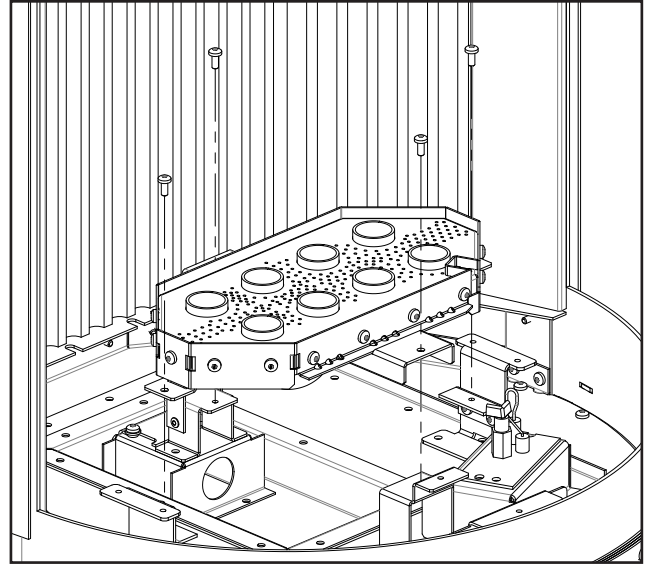

Figure 36: Burner Removal
Remove the four (4) screws securing the burner pan using a T20 screwdriver. Rotate the burner upward and lift out (see Figure 36).